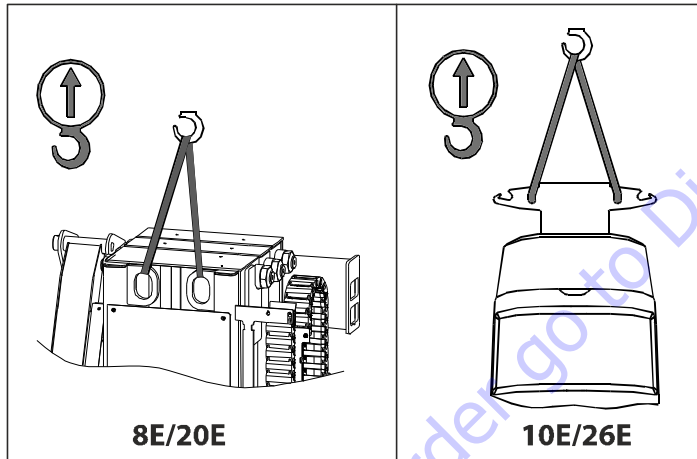

Figure 3-22. Lifting the Machine
- Attach lifting straps/chains at BOTH lifting lugs as shown in Figure 3-22.